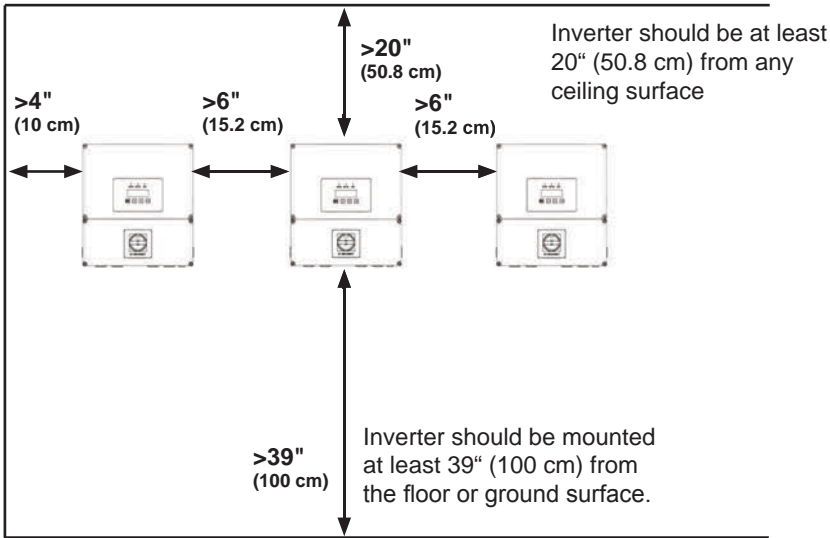

Figure 13: Inverter clearances
3. For clearances around inverter, see Figure 13.